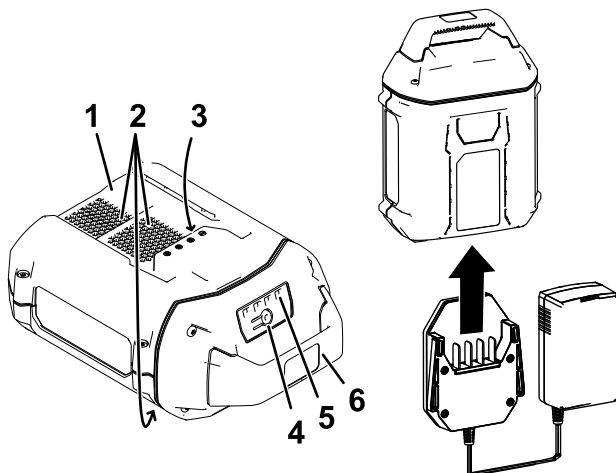

Figure 4
2. Line up the cavity in the battery pack (Figure 4) with the tongue on the charger.
3. Slide the charger into the battery pack until it is fully seated (Figure 4).